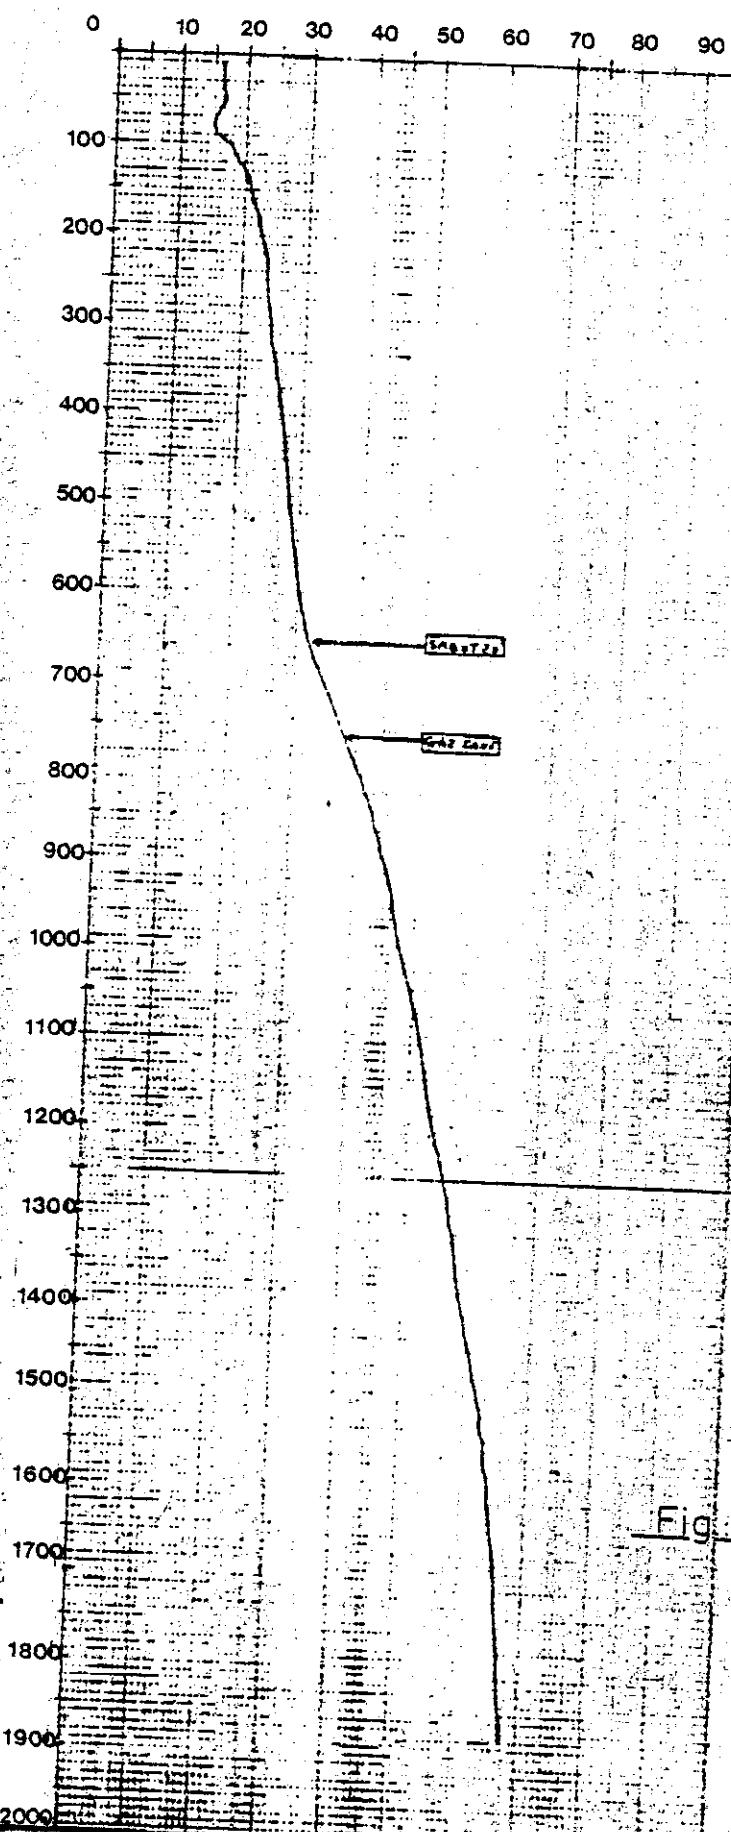

Fig. 2
- Temperature Log: first run tool failed, second run not able to run farther down than 1844 m (see fig. 2)